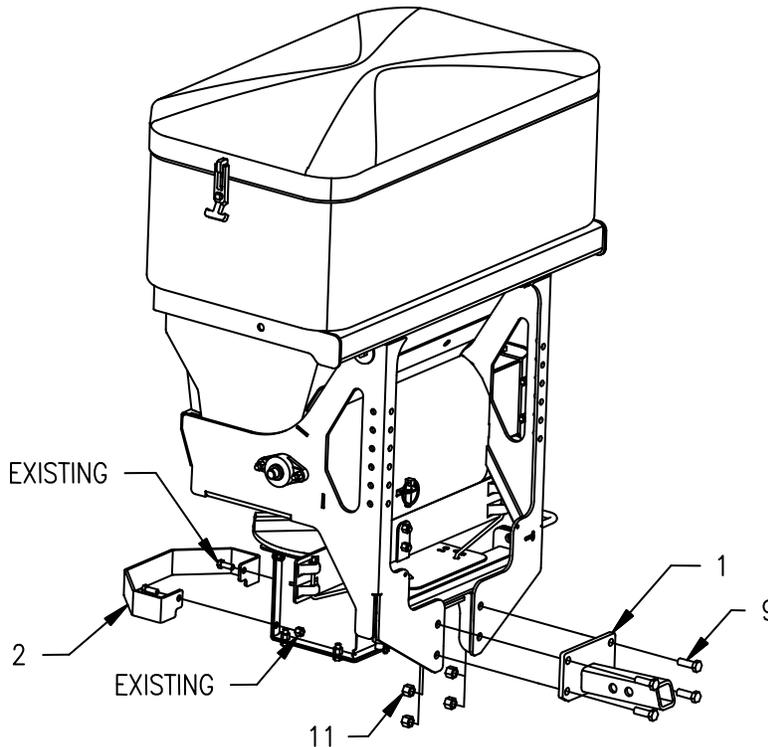

Figure 4. Slide-In Attachment Installation Procedure
2. Mount Spinner Protector (2) using existing 3/8"-16 X 1" Hex Head Bolts and 3/8"-16 Nylon Lock Nuts as shown in Figure 4.